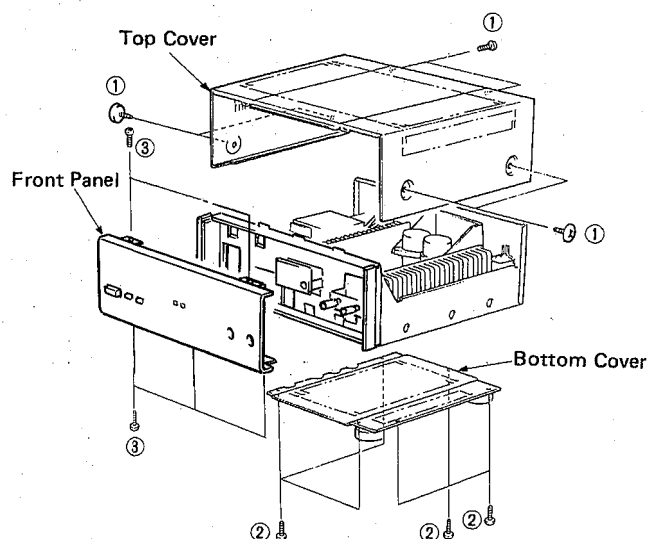

Fig. 1
Remove 6 screws (①) in Fig. 1. and slide the Top Cover back.
Remove 6 screws (②) in Fig. 1.
Remove 5 screws (③) in Fig. 1.